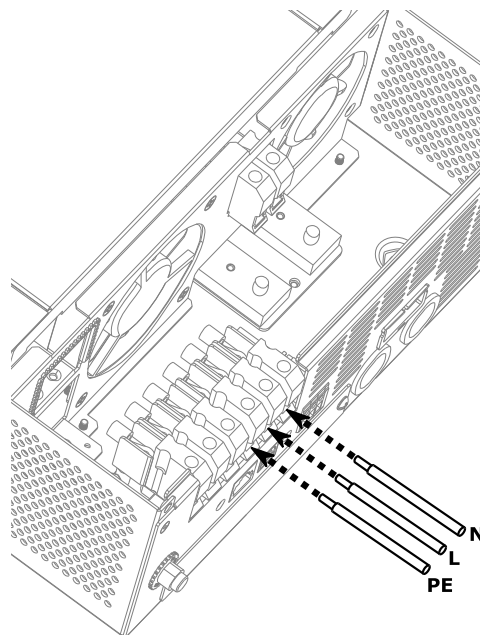

*Figure 7: AC input conductor connection*
4. Connect the PE (⊕ - protective earth) cable of the AC input (*Figure 7*) to the corresponding terminal on the inverter and connect the PE (⊕ - protective earth) conductor of the AC output (*Figure 8*) to the corresponding terminal on the inverter.
5. Connect the L (phase) and N (neutral) conductors to the respective AC input (*Figure 7*) and AC output (*Figure 8*) terminals. Tighten the terminal clamps with a torque of 1.2 Nm.